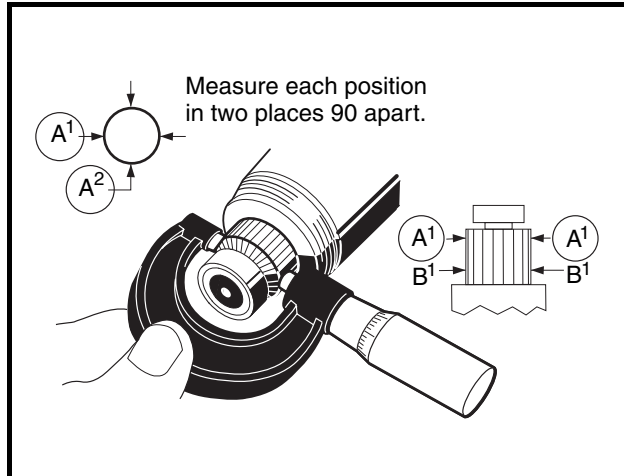

Figure 12-11 Inspect Commutator
2. Using a micrometer, measure the outside diameter at two points along the commutator. If the commutator outside diameter is less than 1.535 inches (39 mm), replace the armature and bearings (Figure 12-11, Page 12-8).